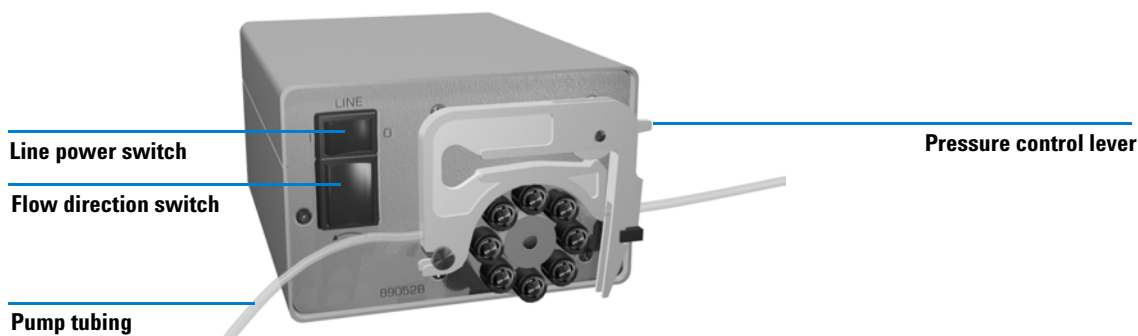

Figure 24 Peristaltic Pump
- 5 Bring the pressure control lever (see Figure 24) to a horizontal position—so that no liquid flows.